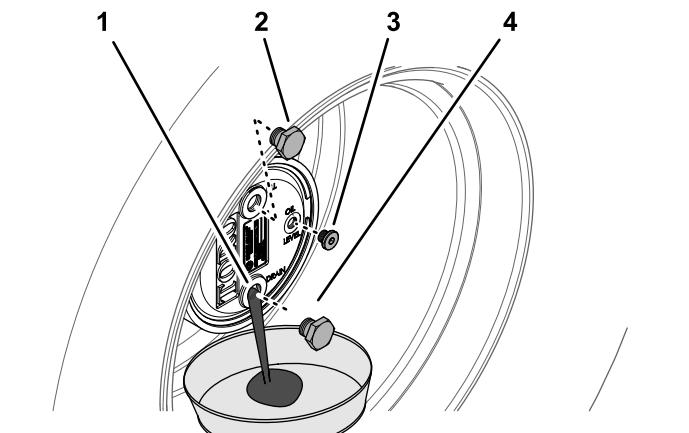

Figure 139
2. Remove the fill plug at the 12 o'clock position and the check plug at the 3 o'clock position (Figure 139).
3. Place a drain pan under the planetary hub, remove the drain plug at the 6 o'clock position, and allow the oil to fully drain (Figure 139).
5. Install the drain plug into the drain hole of the planetary housing (Figure 139).